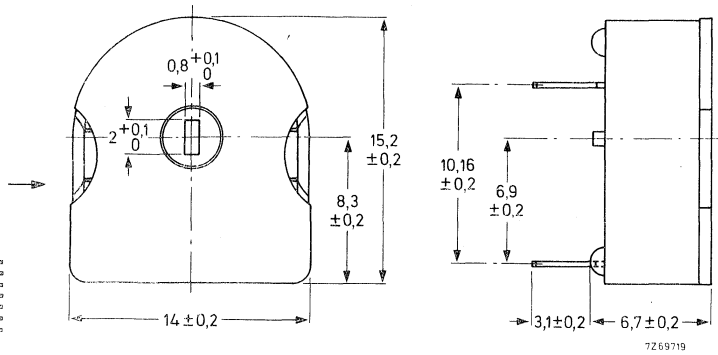

Fig. 1b. Dust-covered version of potentiometer for horizontal mounting.
- 21 = dust-covered version of potentiometer for horizontal mounting (Fig. 1b)